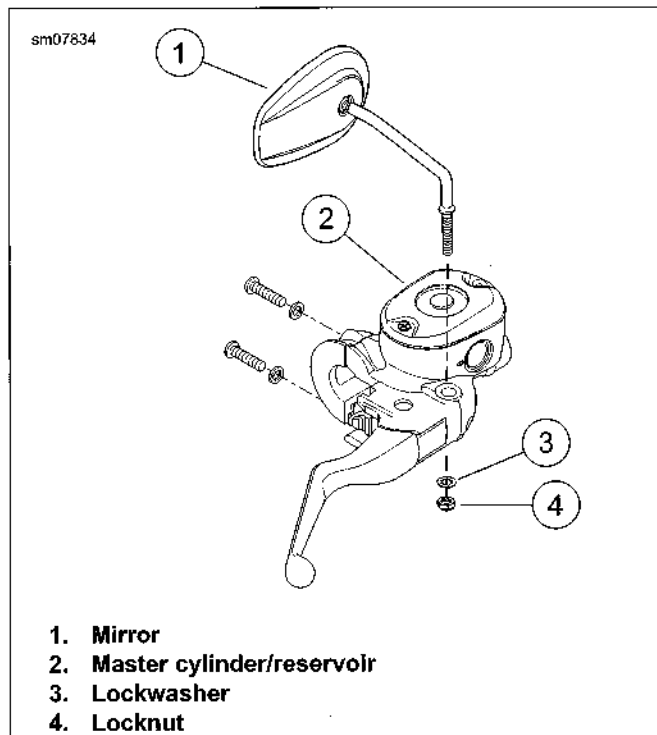

Figure 2-56. Mirror
9. See Figure 2-56. Install mirror.